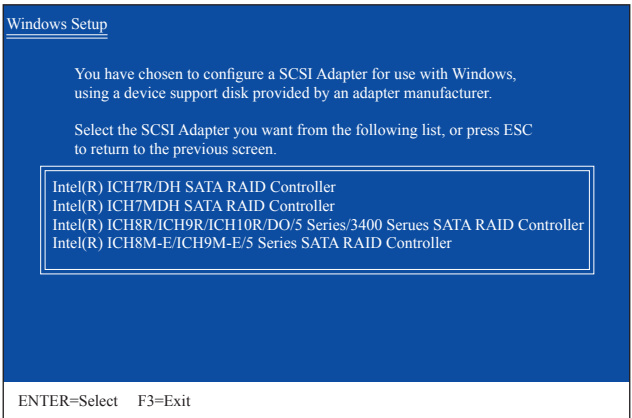

Figure 2
Insert the floppy disk containing the SATA RAID/AHCI driver and press <S>. Then a controller menu similar to Figure 2 below will appear. Select **Intel(R) ICH8R/ICH9R/ICH10R/DO/5 Series/3400 Series SATA RAID Controller** and press <Enter>.